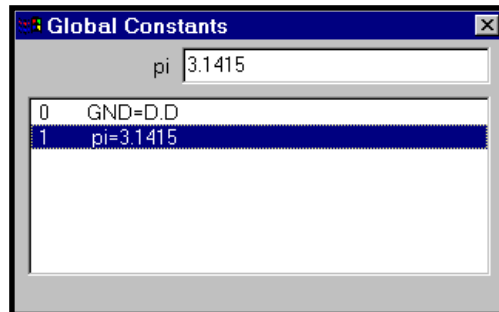

Figure 6. Global Constants List Box
1. Select the Constants command. A list box is displayed as shown in Figure 6.